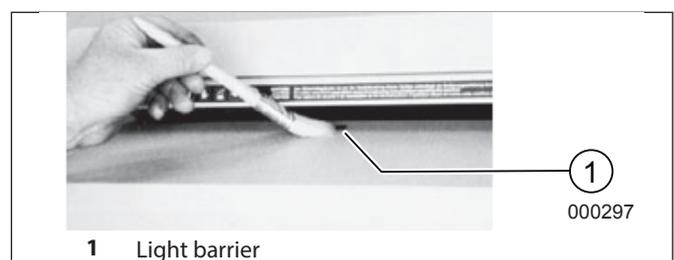

fig. 4 Light barrier
The shredding operation is started as soon as a sheet of paper passes through the feed slot (fig. 4).
4.1 Cleaning the photocells (Abb. 4)